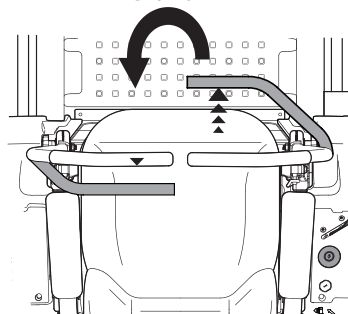

Figure 32
3. To turn counter-clockwise, move the right control lever forward while simultaneously moving the left control lever rearward. See Figure 32.